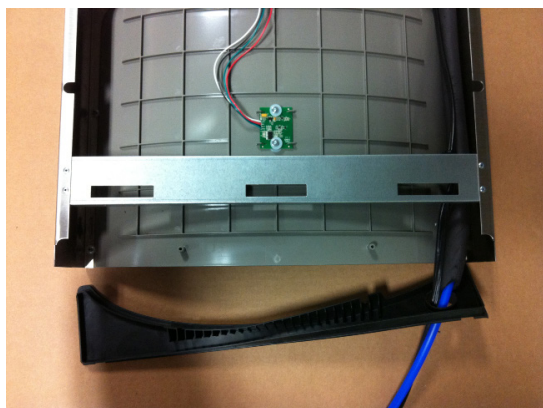

Fig. 6
- 5) Feed power cord & 3/8" water line through hole in tower/basin gasket (See Fig 6).